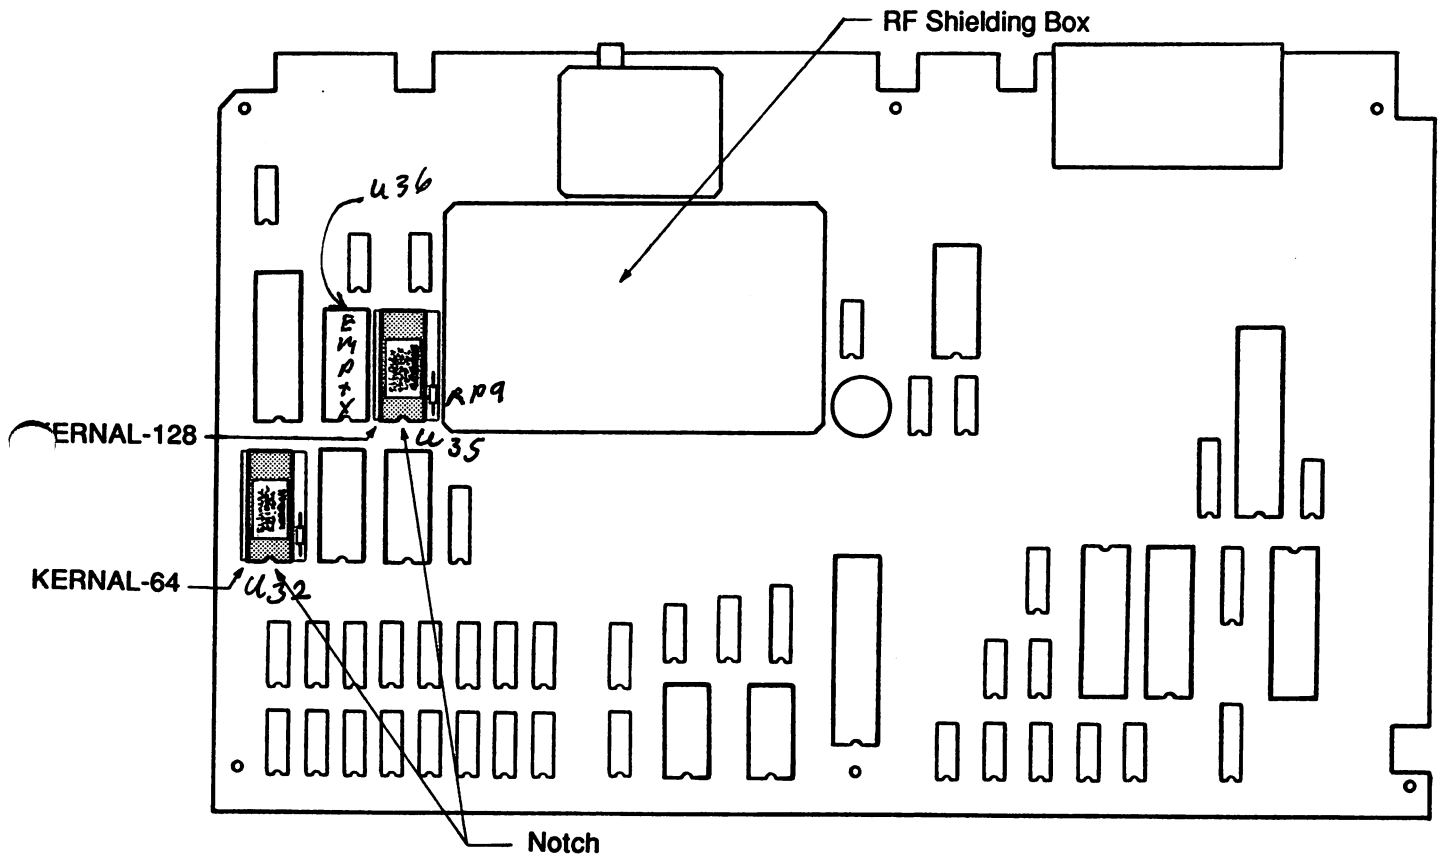

Figure 3 JIFFYDOS KERNAL ROM LOCATIONS
13. "Test fit" the **KERNAL-64** and **KERNAL-128** assemblies into their respective sockets on the C-128 circuit board (see Figure 3 below).
Make sure that the KERNAL-64 and KERNAL-128 ROMs are in the correct sockets, and MAKE SURE THAT THE NOTCHES IN THE ROMS FACE THE FRONT OF THE COMPUTER AS SHOWN IN FIGURE 3 BELOW.
DO NOT replace the single screw which secures the shield to the top of the RF Shielding Box shown in Figure 3 (leaving the screw out will not affect the operation or reliability of the C-128 in any way).
18. Before continuing, **MAKE SURE** the cover on the RF Shielding Box (see Fig. 3) is pressed down firmly into place (see above).